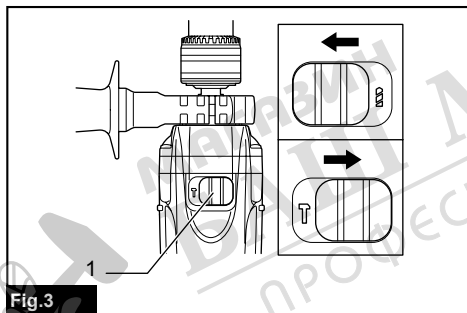

Fig.3
► Fig.3: 1. Action mode changing lever